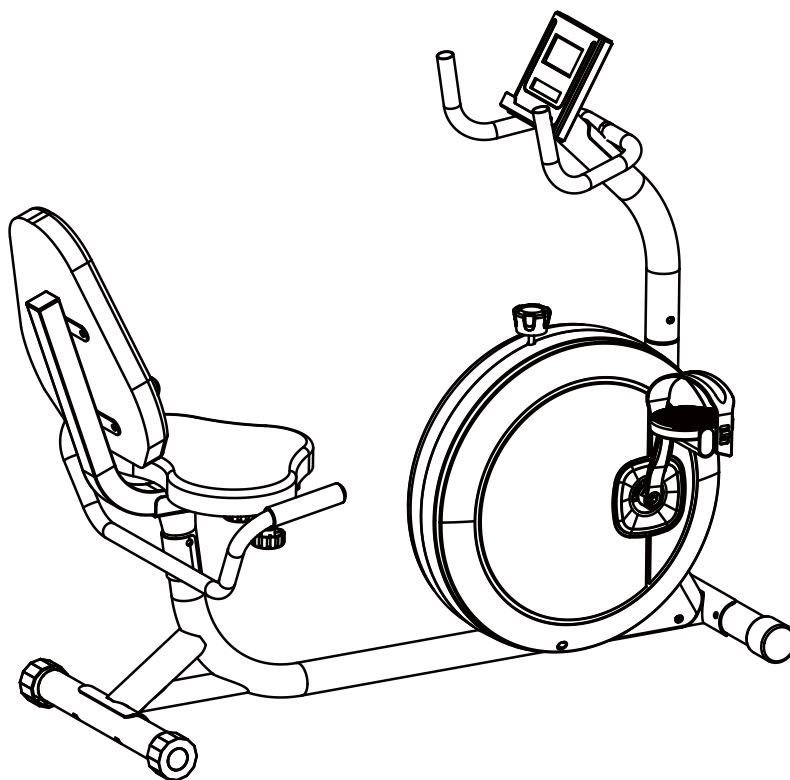

Figure 14
14. After assembling all parts, check the screws of each part to ensure that they are fastened before use. As shown in Figure 14.